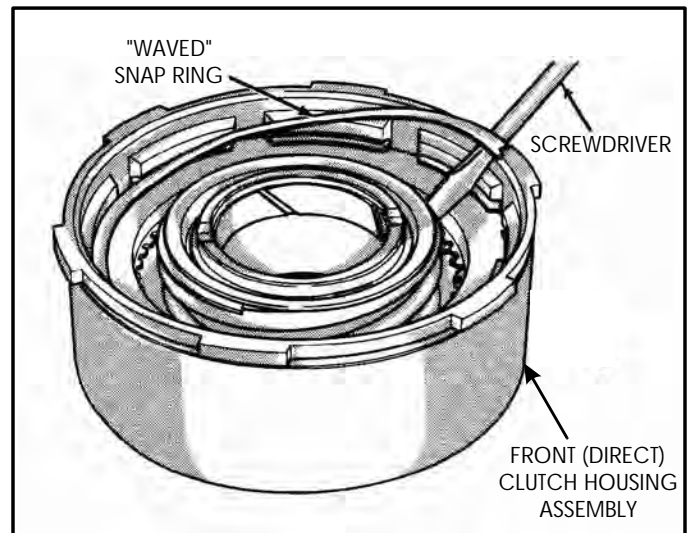

Figure 71
23. Install the "Waved" pressure plate snap ring into its groove using a screwdriver, as shown in Figure 71.